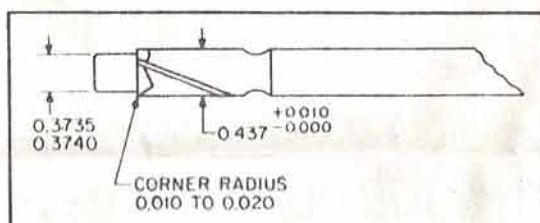

Figure 8-1
a. Procure a piloted counterbore tool similar to that shown in figure 8-1.